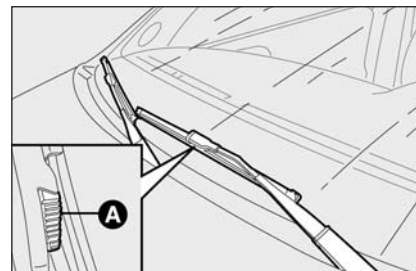

fig. 23
- ☐ press tabs **A-fig. 23** (set aside the blade) and remove the blade to be replaced from the arm;